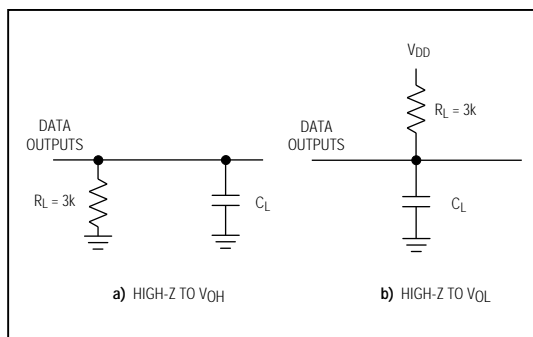

Figure 1. Load Circuits for Data-Access Time Test
**Note 5:** See Figure 1 for load circuit. Parameter defined as the time required for the output to cross 0.8V or 2.4V.